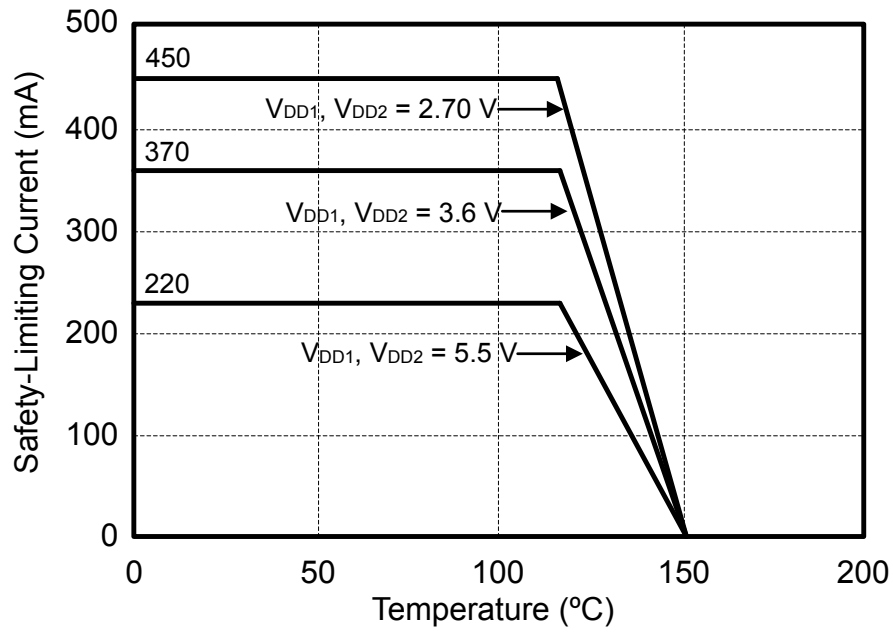
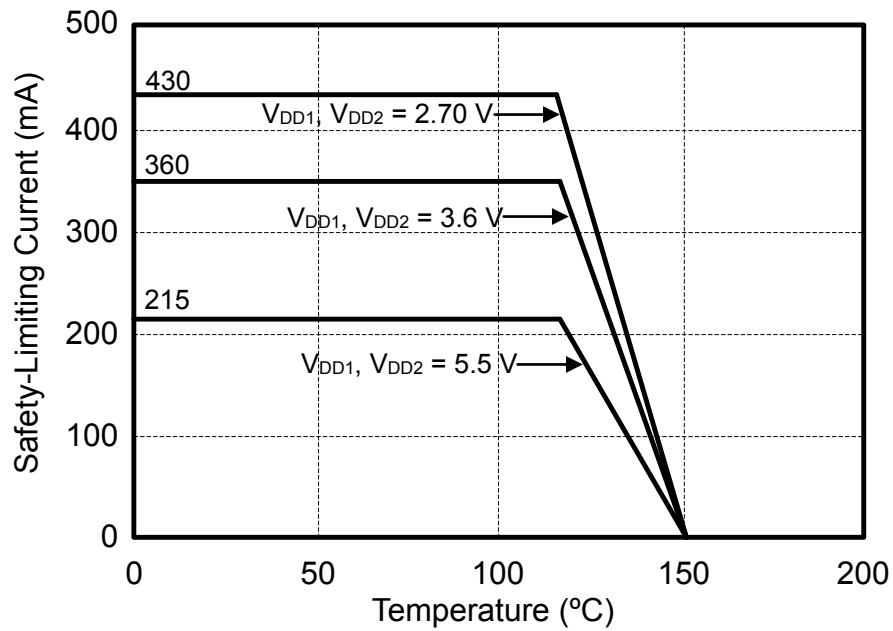

Figure 4.3. (WB SOIC-16) Thermal Derating Curve, Dependence of Safety Limiting Values with Case Temperature per VDE 0884-10
Figure 4.4. (NB SOIC-16, QSOP-16) Thermal Derating Curve, Dependence of Safety Limiting Values with Case Temperature per VDE 0884-10
1. Maximum value allowed in the event of a failure; also see the thermal derating curve in [Figure 4.3 \(WB SOIC-16\) Thermal Derating Curve, Dependence of Safety Limiting Values with Case Temperature per VDE 0884-10 on page 25](#) and [Figure 4.4 \(NB SOIC-16, QSOP-16\) Thermal Derating Curve, Dependence of Safety Limiting Values with Case Temperature per VDE 0884-10 on page 25](#).